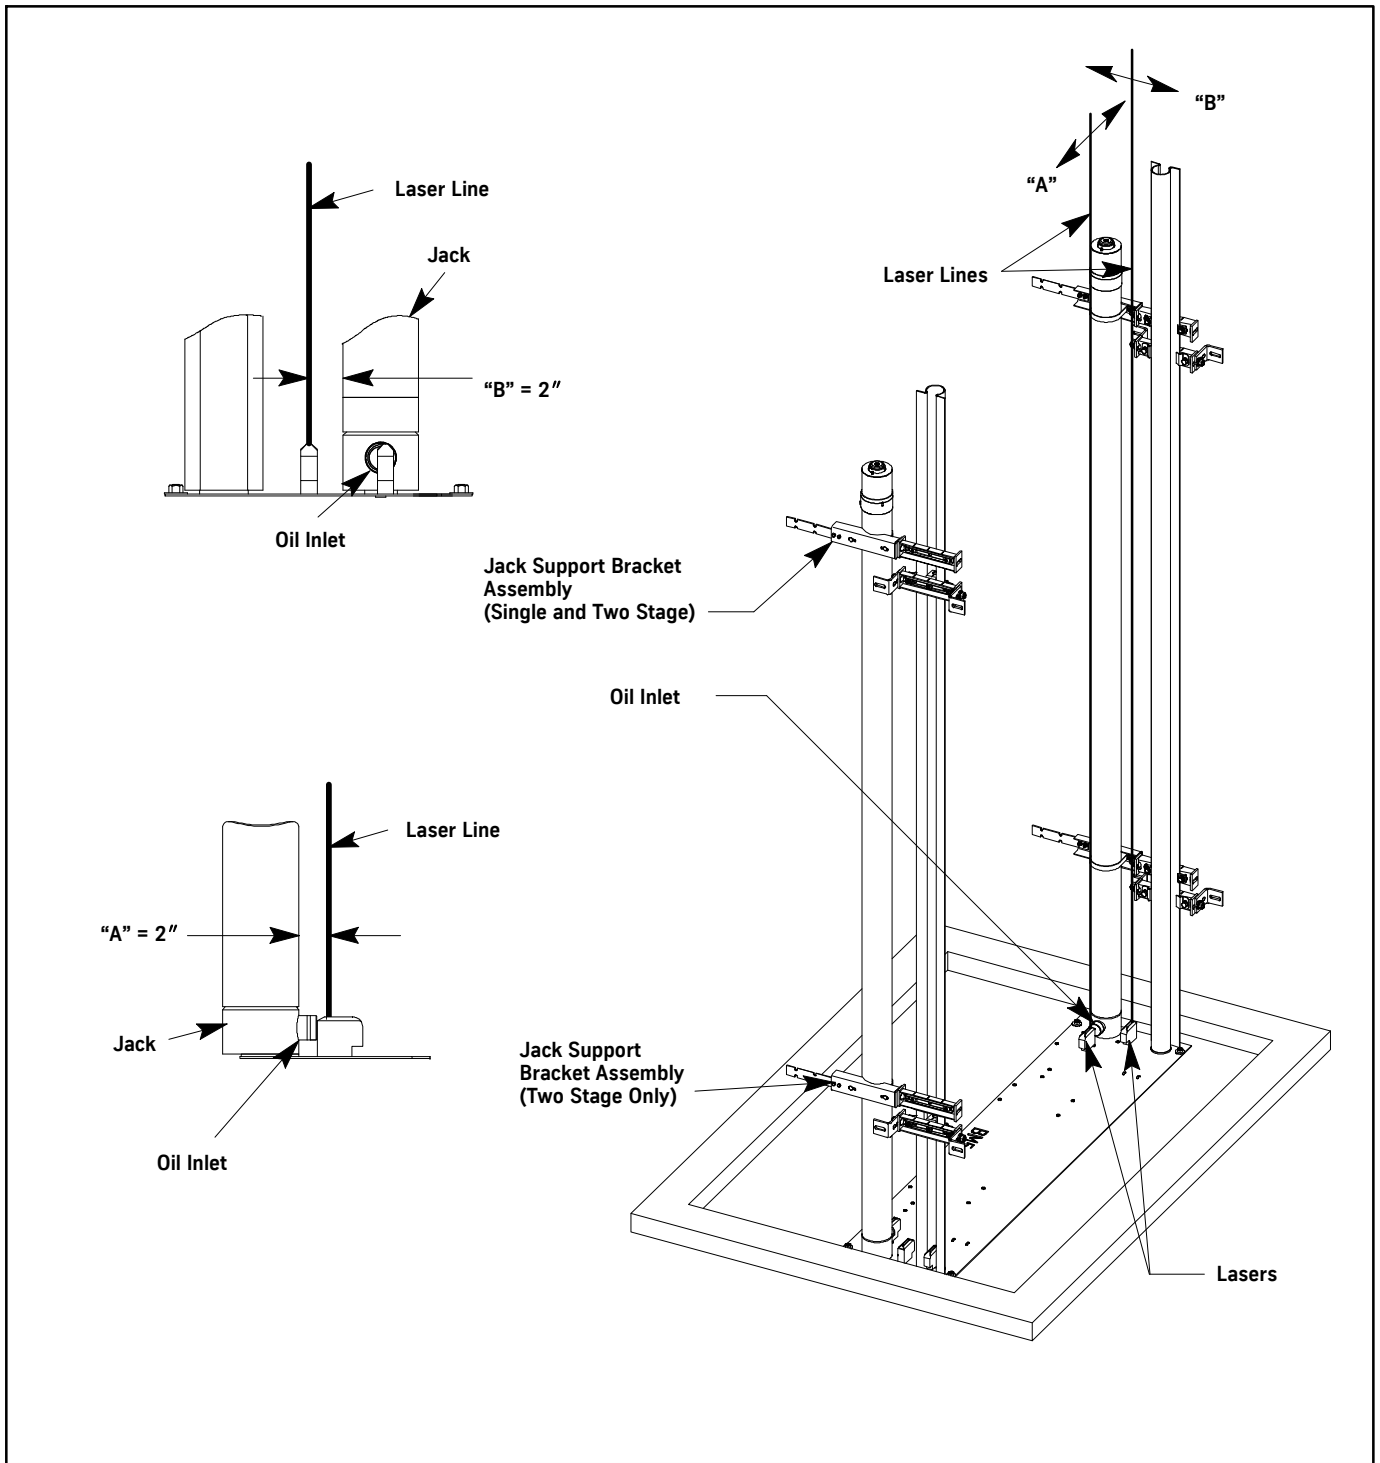

Figure 9 - Jack Installation (Two Stage Shown)
6. Place a laser(s) in pre-punched hole(s) of the pit template in locations as shown in Figure 9.
7. Turn the jack so that the oil inlet is pointing toward the other jack. See Figure 9.
8. Use the laser(s) to plumb the jack, making sure that dimensions A and B are 2” at each end. See Figure 9.